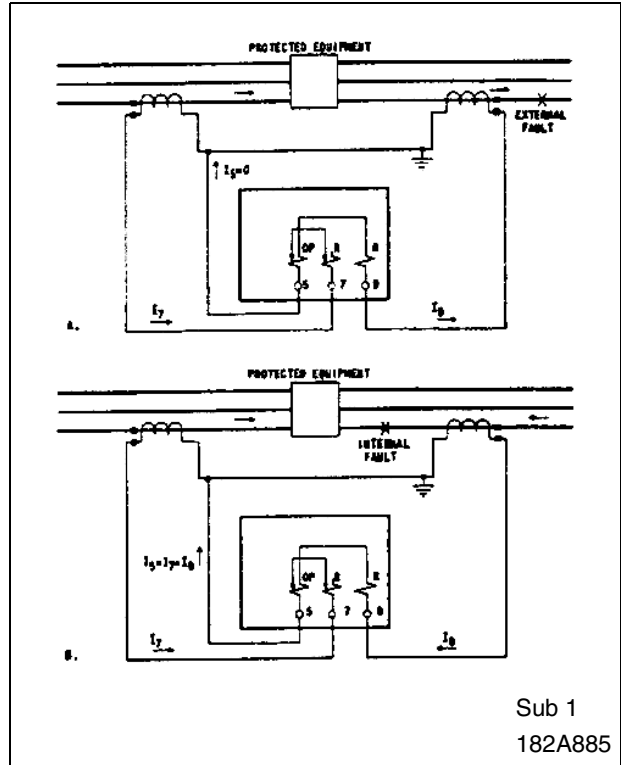

Figure 4. Schematic Diagrams of the Percentage Differential Relays:
With the relay connected as in the schematic diagram, Figure 4.(A), a through fault causes currents to flow through two restraint windings in the same direction. If the current transformers operate properly, these restraining currents are equal, or effectively equal if appropriate auto balance taps are used to compensate for mismatch in current transformer ratios and no effective current flows in the operating coil winding and hence only contact opening torque is produced. If the currents in the two restraining windings are effectively unequal, the effective difference must flow in the operating coil. The operating coil current required to overcome the restraining torque and close the relay contacts is a function of restraining current.
In the case of heavy internal fault, when an external source feeds current into the fault, the restraining currents are in opposite directions and restraining torque tends to cancel out as illustrated in Figure 4.(B). When the currents fed from the two sides are equal or effectively equal because of the taps used, the restraint is totally cancelled. When effectively unequal currents flow in from the two sides, the restraint is equivalent to the difference in the two effective currents, divided by two, but since the more sensitive operating coil is energized by the sum of the two currents, the restraint in this case is inconsequential, and a large amount of contact closing torque is produced.
As an example of the degree of accuracy of the formula consider the point I₇ = 43.5, and I₉ = 30, read from the lower curve for the 5-5 tap, Figure 4. Applying the formula, Equation (2) the calculated value of I₇ is found to be 45 amperes, which is fairly close to the curve value, I₇ = 43.5.
The transformer relay is detailed in Figure 4. When the relay is correctly set, one screw must be in the lower row of holes at the correct tap value and the other must be in the hole directly above.